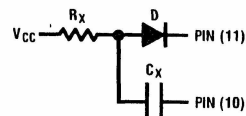

FIGURE 2
4. If C_X is an electrolytic capacitor a switching diode is often required for standard TTL one-shots to prevent high inverse leakage current (Figure 2).